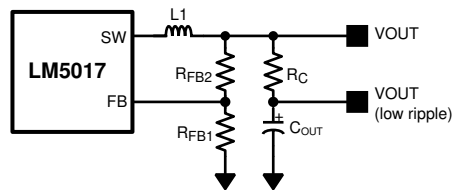

图 7-1. Low Ripple Output Configuration
This regulator regulates the output voltage based on ripple voltage at the feedback input, requiring a minimum amount of ESR for the output capacitor (C_{OUT}). A minimum of 25 mV of ripple voltage at the feedback pin (FB) is required for the LM5017. In cases where the capacitor ESR is too small, additional series resistance may be required (R_C in 图 7-1).
For applications where lower output voltage ripple is required the output can be taken directly from a low ESR output capacitor, as shown in 图 7-1. However, R_C slightly degrades the load regulation.